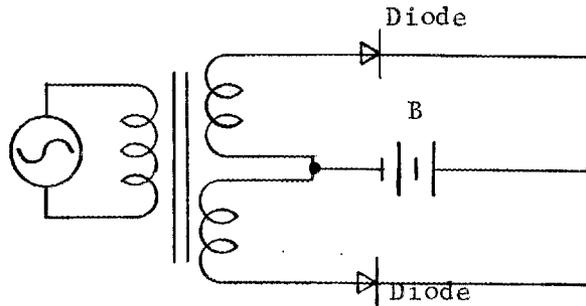

Fig. V-30. Full-Wave Rectifier Circuit Charging a Battery
85. It is desirable, however, to make use of both half-waves; and to do this two different circuit arrangements have been developed. Figure V-30 shows one of these. Two half-wave rectifiers are connected so that current flows through one during one-half of each cycle and through the other during the alternate half cycle. Each of the transformer windings furnishes power during one-half of each cycle.